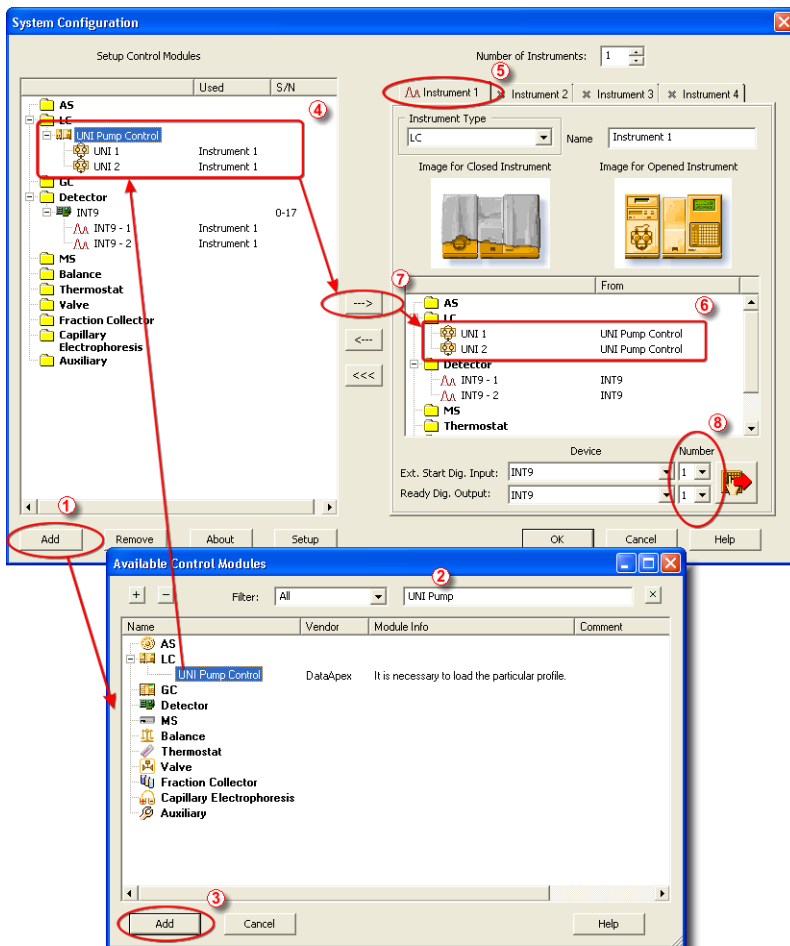

Fig 2: How to add Omniseparo pumps
Start the **Clarity** station by clicking on the  icon on the desktop. Invoke the **System Configuration** dialog accessible from the **Clarity** window using the *System - Configuration...* command. Press the **Add** button ① (see Fig 2 on pg 6.) to invoke the **Available Control Modules** dialog. You can specify the searching filter ② to simplify the finding of the driver. Select the **UNI Pump Control** item and press the **Add** ③ button.